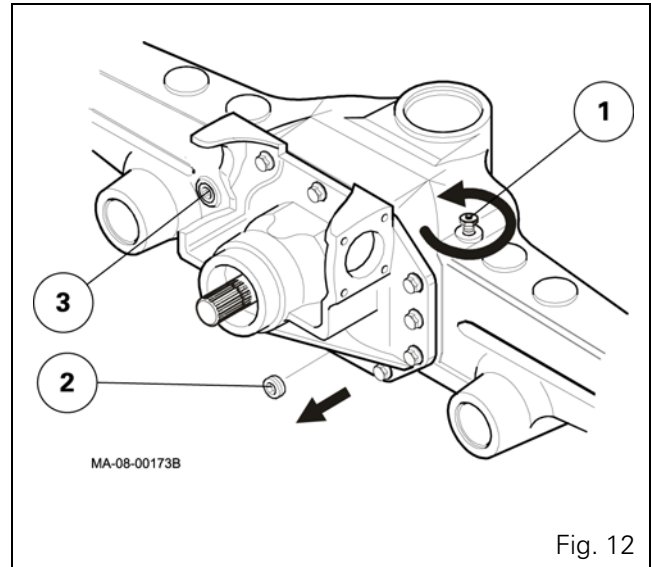

Fig. 12
After draining the oil, loosen the breather (1) (Fig. 12) to release any internal residual pressure.
Drain the oil through the draining port (2), then tighten the drain plug to the required torque using a torque wrench (see § A) (Fig. 12)